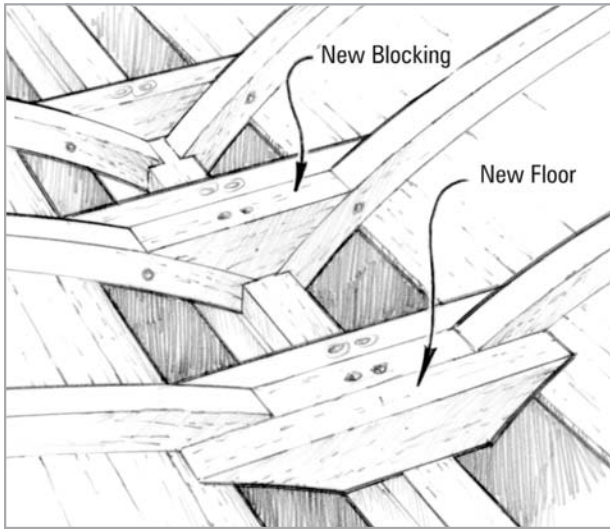

Figure 4-10 Bond new floors and blocking to the keels and frames.
5. Bond the new floors and blocking to the keel and frames (*Figure 4-10*). Wet out all mating surfaces and end grain with resin/hardener mixture. Apply thickened epoxy/406 filler. Clamp in position until epoxy cures. Allow the epoxy to cure thoroughly before removing clamps and proceeding with the next step.